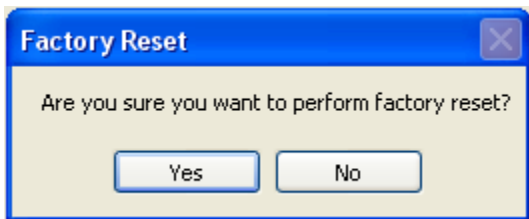

Figure 3-5
1. Go to the **Tools** pull down menu, select **Factory Reset**, the **Factory Reset** window is displayed (Figure 3-5).